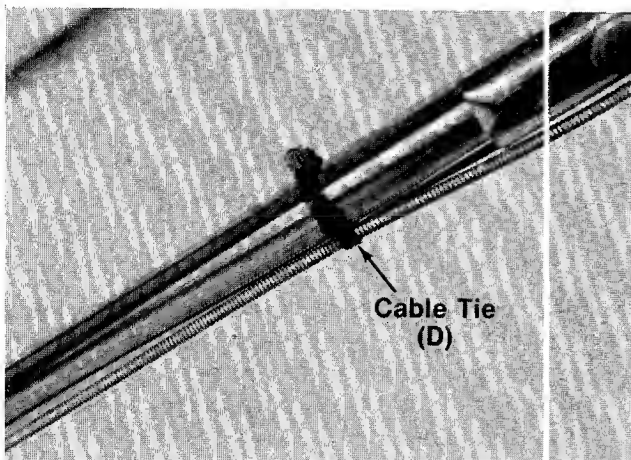

FIGURE 7.
12. Secure throttle control cable and blade brake/clutch cable to upper and lower handles with cable ties (D) provided. See figure 7.